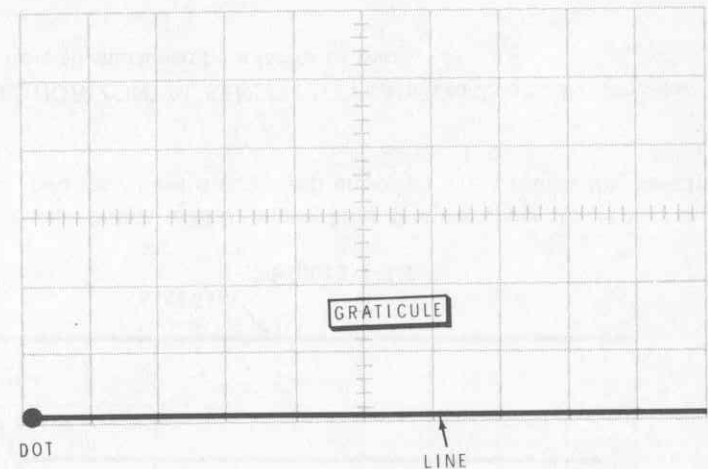

Figure 1-12
- ( ) Position the dot in the lower left-hand corner of the graticule. See Figure 1-12.